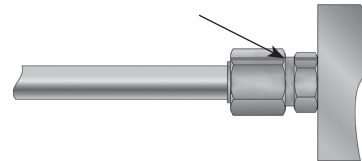

Fig. R34a – Tighten Joint to Wrench Resistance (Approximately 30 in-lb). Make reference mark on nut and fitting body.
Parker also recommends that wherever possible, the step of marking the nut position relative to the body should be done. This step serves as a quick quality assurance check for joint tightening. To do this, at the initial wrench resistance position, make a longitudinal mark on one of the flats of the nut and continue it on to the body hex with a permanent type ink marker as shown in Fig. R34a. Then, at the properly tightened position, extend the previous mark on the nut hex to the body hex, as shown in Fig. R34b.
4. Reference Fig. R34a and R34b for example of FFWR method.